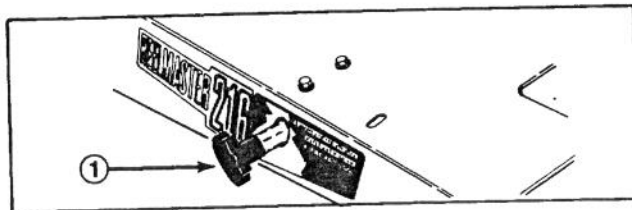

Figure 25
**Drive Engagement Control** (Fig. 25) — On lower left side of operator. Pull knob out for 2 wheel drive; push knob in for 3 wheel drive.